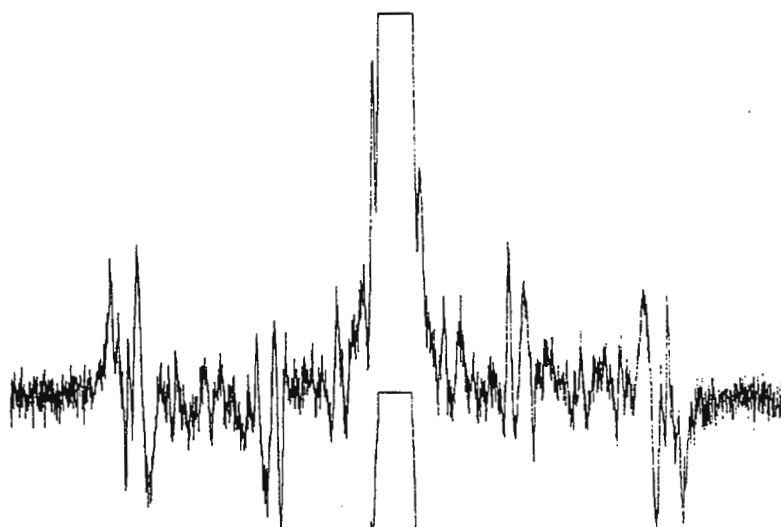

Figure 2.
The ability to suppress two xenon resonances simultaneously in the imaging experiment makes it possible to image either of the two occluded xenon resonance lines independently. The  $^{129}\text{Xe}$  chemical-shift selective images utilizing this protocol are depicted in Figure 2. Figure 2A clearly demonstrates that xenon having a chemical shift of  $\delta = 52$  ppm resides within the middle specimen exclusively. On the other hand, Figure 2B shows that xenon at  $\delta = 47$  ppm is present in the other two aerogel specimens. This spectroscopic information has important implications about the pore structure of aerogel networks, and clearly illustrates that the two xenon chemical shifts are associated with entirely different pore structures.
**Figure 2.** Slices (thickness of 1 mm) of chemical-shift selective images: (A) Signal from the resonance at 52 ppm has been selected while the other resonances have been suppressed; (B) Signal from the resonance at 46 ppm has been selected.
When our 750 was installed, Oxford insisted upon a vent line from the magnet quench vent to the outside of the building. This was installed as an aluminum duct, hanging from the ceiling supports, and encompassing but not touching the quench vent on the magnet. At the time, the vent went straight outside, with no barrier. As a result, we had wind coming down the vent into the room. We placed foam packing material between the magnet quench vent and the exterior vent line to cut down the wind. When the foam was removed, the  $\pm 40$  Hz noise disappeared, but ~20% sidebands at  $\pm 1.1$  Hz appeared due to the wind tunnel effects. We eventually concluded that our 40 Hz noise problem was due to vibrations transmitted to the magnet from the exterior helium vent line, and contributed to by the wind. Our next move was to place a barrier in the exterior vent line where it met the outside world. Our current choice of material is aluminum foil, but we are searching for a 5 psi carbon disk to replace the aluminum. With the foil in place, we no longer had a wind tunnel effect, so we removed the foam packing material, and lo and behold, the  $\pm 40$  Hz noise went away (see figure 2 below). Success at last, we thought!